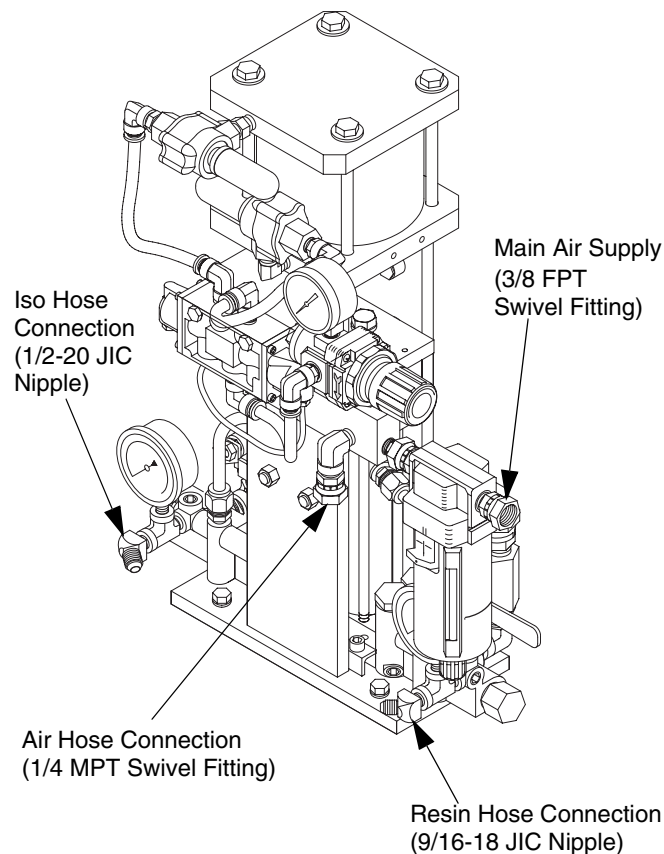

FIG. 13: Model 297531 Hose Connection Locations
1. Connect first section of isocyanate and resin hoses to their respective pump outlet fittings on proportioning unit. See FIG. 13.
2. Connect end of air hose included with hose assemblies to air outlet fitting on proportioning unit. See FIG. 13.
6. Connect main air supply to proportioning unit. See FIG. 13.